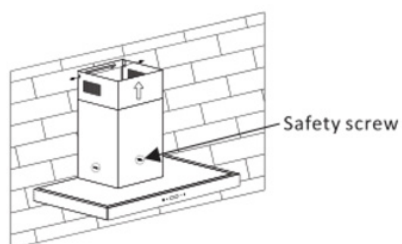

Fig. 8
5. Adjust the height of the inner part of the chimney to the position of the inner bracket and fix it with screws (ST4*8 mm). After adjusting the position of the kitchen hood, fix the body with safety screws (ST4*30 mm). Fig. 8